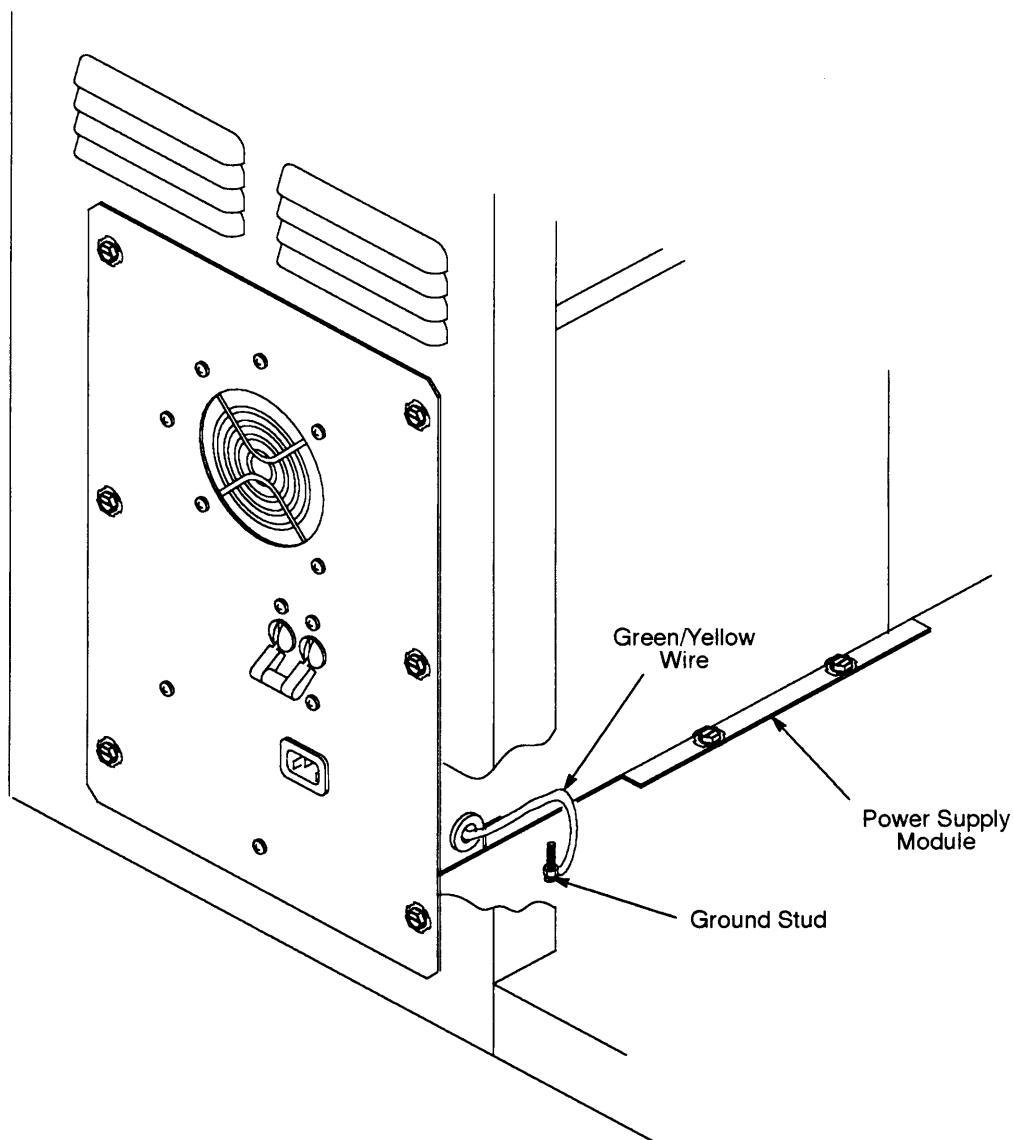

Figure G-1. Power Supply Ground Stud
4. Make sure the green/yellow wire from the power supply is undamaged and is firmly attached to the ground stud on the floor of cabinet, as shown in Figure G-1.